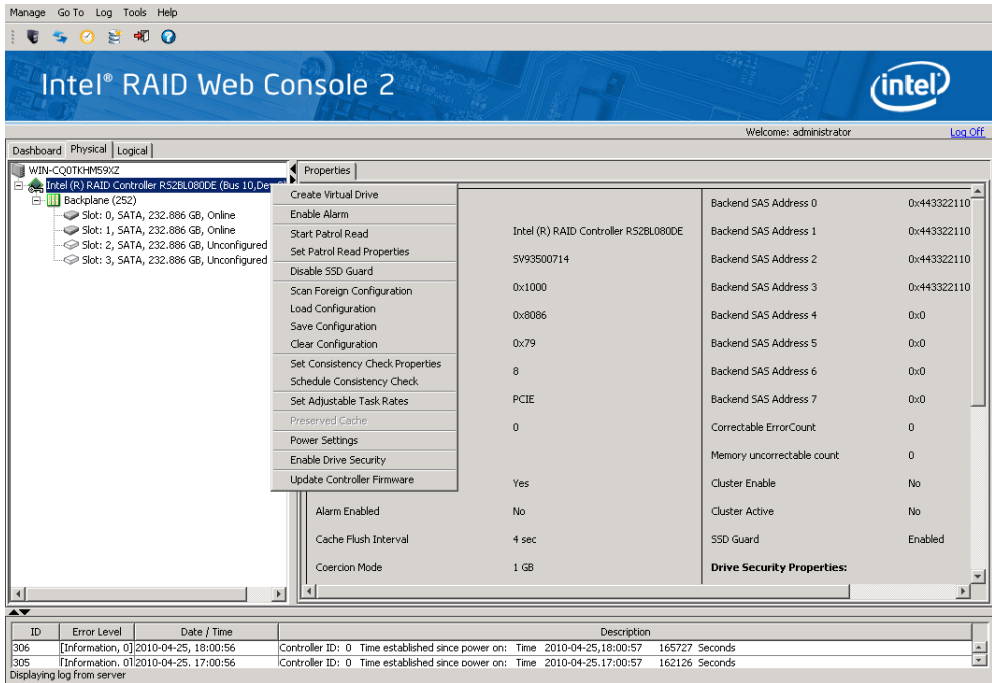

Figure 56. Virtual Drive Creation Menu
- Select the controller node and select Go To -> Controller -> Create Virtual Drive in the menu bar, as shown in Figure 56